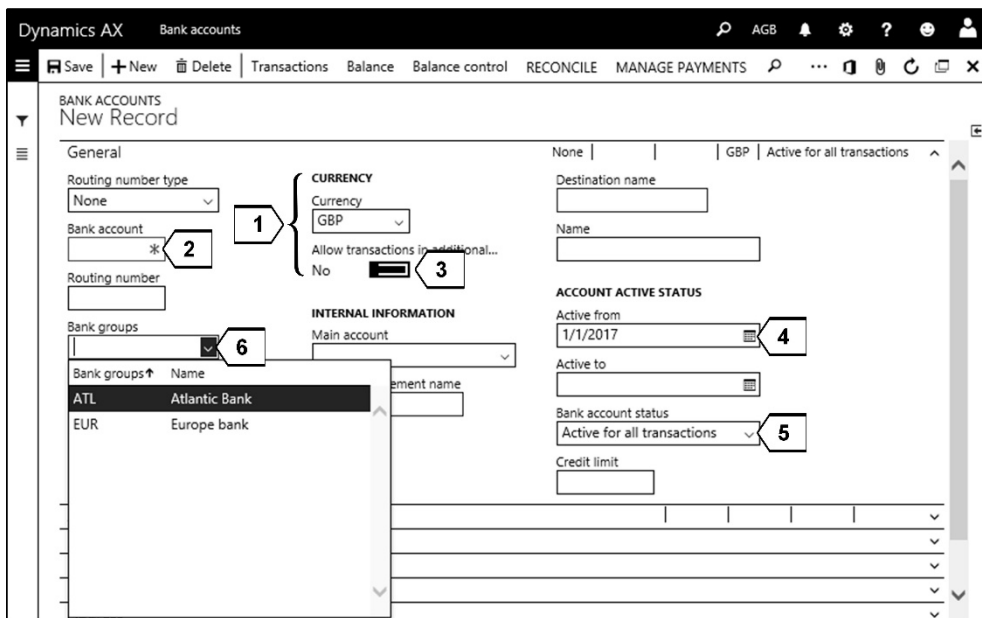

Figure 2-12: Types of fields on the example of the bank account detail form
When entering data in a form, you have to distinguish between following elements as shown in Figure 2-12 on the example of the bank accounts detail form (*Cash and bank management> Bank accounts*):
- **Slider [3]** – Sliders (as shown in Figure 2-12) and checkboxes are used in fields with a binary choice (Yes/No). In order to select a checkbox or set a slider to “Yes”, click it with the mouse or press the *Space bar* key once the cursor is on the field.
- **Lookup fields with a related main table**, which contains permitted values – e.g. *Bank groups* in Figure 2-12.
- **Lookup fields with a fixed list of values**, which is given by Dynamics AX enumerable types (*Enums*) – e.g. *Bank account status* in Figure 2-12.
In the lookup form, you can select a record by clicking it, or by pressing the *Enter* key once the appropriate line in the lookup is active. If a value lookup contains multiple lines and you want to reduce the number of displayed lines, you can use the grid column filter and the sorting options as described in section 2.1.5. In the example shown in Figure 2-12, you can enter a filter on the bank group name by clicking the column header field *Name* in the lookup.
Apart from value lookup, the table reference of fields with a related main table also provides the option to directly access the detail form of the related main table. If you want to insert a new bank group in the form shown in Figure 2-12 for example, you can open the bank group form directly from the *Bank group* field.